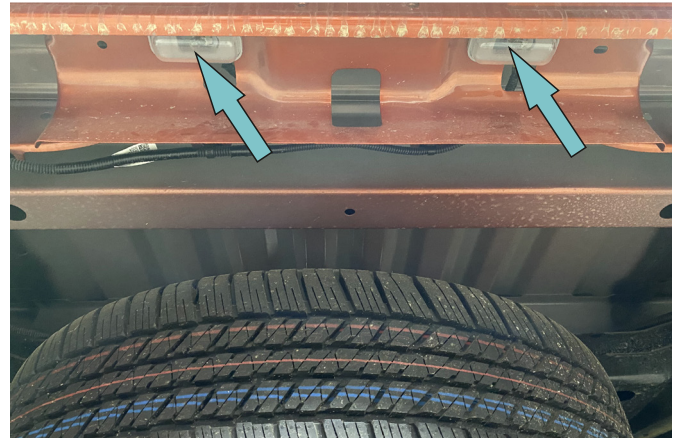

Fig. 8
8. Disconnect LED light of license plate light. Remove license plate light case (Fig. 8).